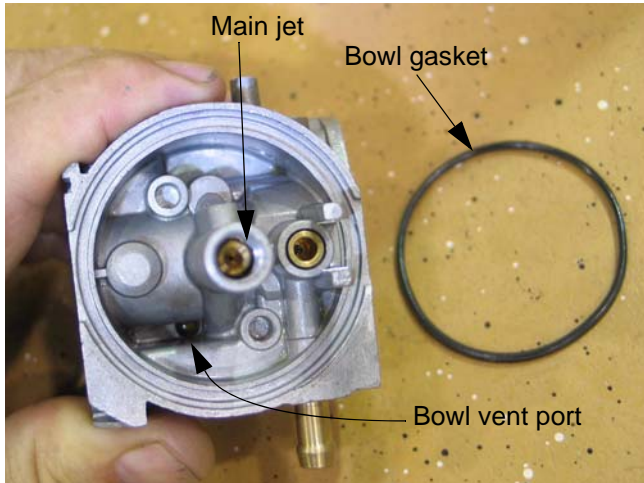

Figure 4.42
6. Remove the main jet by using a narrow-shank straight blade screwdriver. See Figure 4.42.